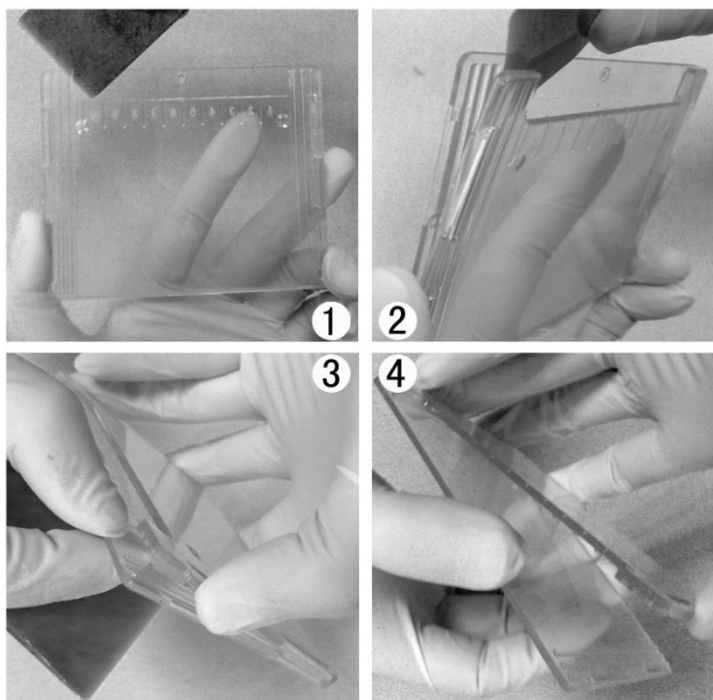

Figure 3. Opening the cassette to expose the gel.
- Insert a coin or a small metal spatula in one of the slots at the bottom of the gel cassette and twist to open the gel cassette. Pull the top plate of the cassette away from the bottom plate. The two halves will snap apart completely, exposing the gel (Figure 3).